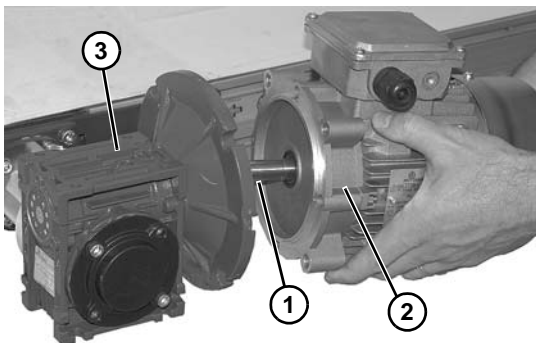

Figure 31
4. Apply anti-seize to motor shaft before assembling to gearbox. With key (**Figure 31, item 1**) in keyway, slide motor (**Figure 31, item 2**) and gear reducer (**Figure 31, item 3**) together.